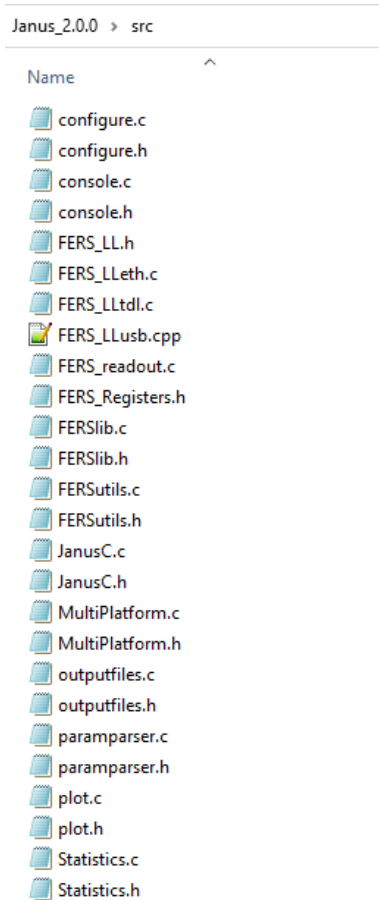

Fig. 2.3: C-source and header files. The path is visible in the top bar menu.
- **src**: folder containing the software C-source and header files (see Fig. 2.3).